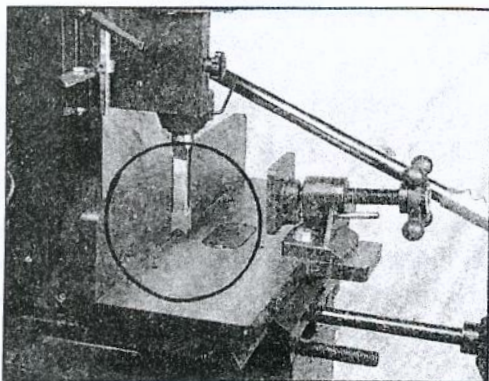

Fig.8
5. Insert the hollow square chisel into the chisel head and push up until it butts against the bush, then hold the hollow square chisel up, but do not tighten. Set the hollow square chisel square to the table fence, with lower clearance slots to the side, then tighten set screw through bush firmly as shown in Fig.8 .